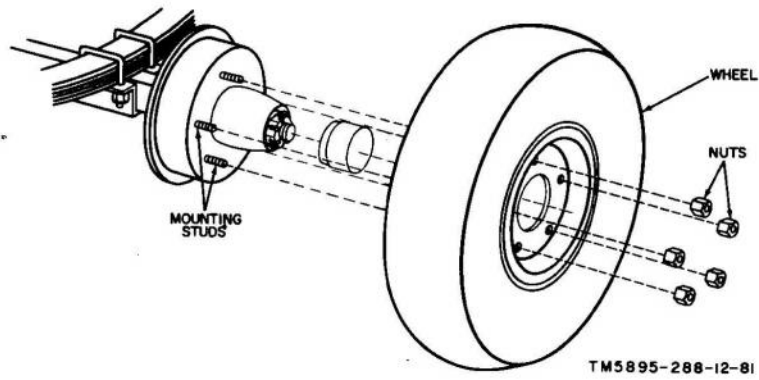

Figure 69. Four-wheel trailer wheel assembly, exploded view.
- (3) Remove the retracting pins, swing the caster assembly up, and replace the retracting pins.
- (4) Remove the wheel bolt and the wheel.
- (5) Place the new wheel in position. Replace and tighten the wheel bolt.
- (6) Remove the retracting pins, swing the caster assembly down, and replace the retracting pins.
- (7) Lower the caster assembly until the wheel is on the ground.
l. Replacing Four-Wheel Trailer Wheels (fig. 69). To replace a wheel on the four-wheel trailer, proceed as follows:
- (1) Apply the handbrake and chock the other wheels.
- (2) Use a lug wrench and loosen, but do not remove, the five nuts on the wheel to be replaced.
- (3) Raise the side of the four-wheel trailer with a jack until the wheel is off the ground.
- (4) Remove the five nuts and the wheel.
- (5) Position the new wheel on the five studs and replace the nuts.
- (6) Lower the trailer until it rests on the wheel. Tighten the nuts on the wheel. Remove the wheel chocks.